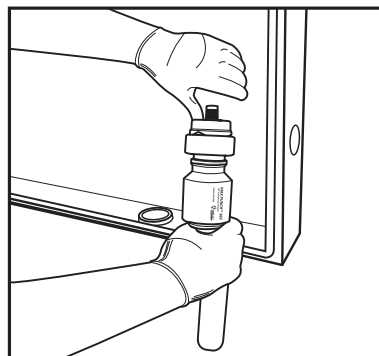

Fig. 8
12. Unscrew cutter die to release slug (Fig. 8).